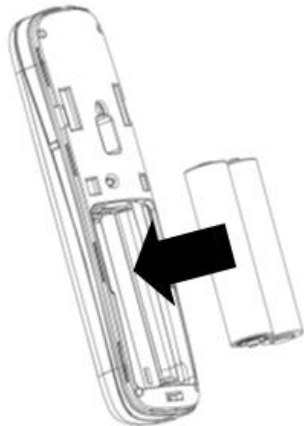

Figure 3
4. Place a battery as instructed in Figure 3 and wait until the Red LED stops blinking.